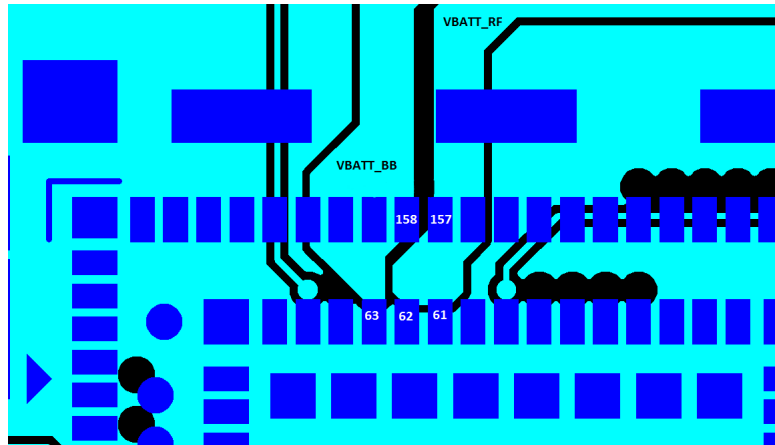

Figure 5-1: Power Supply Routing Example
- Figure 5-1 shows separate traces for VBAT_BB and VBAT_RF. If VBAT_BB and VBAT_RF share a single power supply, these traces should be connected.